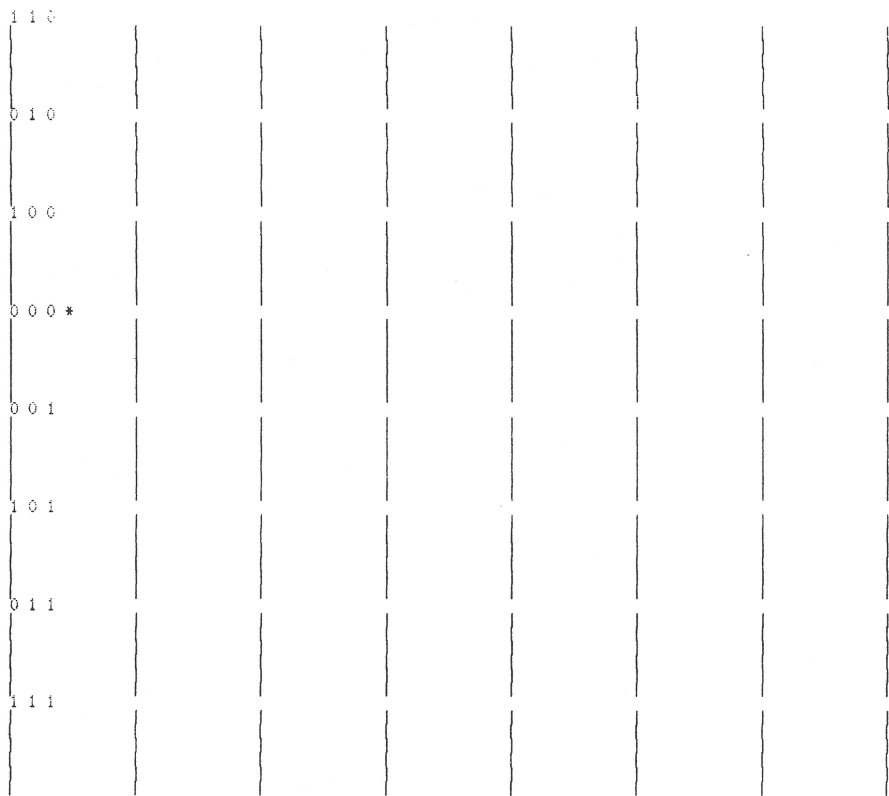

FIGURE 4
b) Remove the printout and compare it to the sample shown in Figure 4. An asterisk (*) will indicate the current setting of DIP switches S3 positions 6, 7, and 8. **For horizontal registration to be in proper adjustment**, the asterisk must be next to the DIP switch setting with the straightest vertical lines.